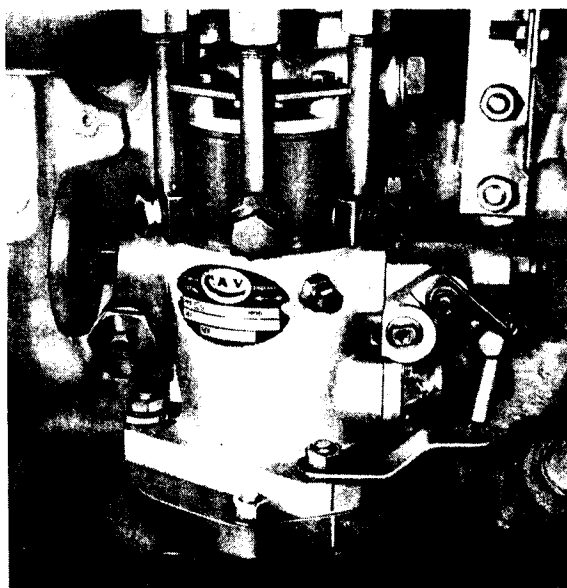

Fig. M.8.
2. Position the fuel pump so that the scribed line on the fuel pump flange aligns with the mark on the fuel pump adaptor plate (Fig. M.8). Secure the pump to the adaptor plate.